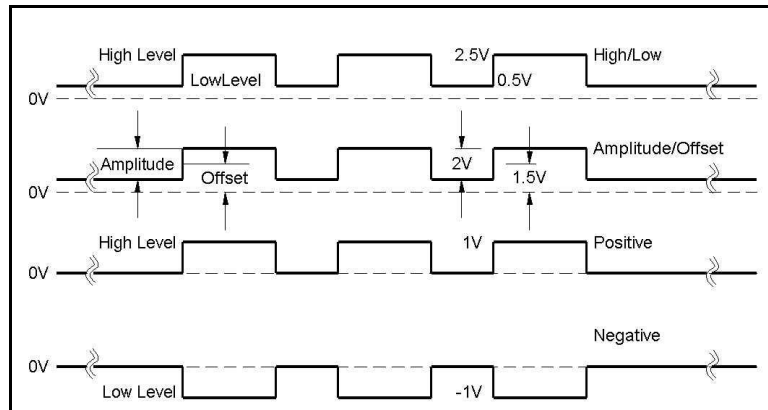

Figure 3-72, Amplitude Level Modes Options
Using the WX2182C as your pulse source, you have four options to set up the pulse levels, as shown in Figure 3-72 and explained below:
1. **High/Low Levels.** This is the default option. Using this mode, you can program the high and the low levels directly, while allowing the instrument to set the internal amplitude and offset according to your selection. The maximum amplitude that can be programmed is 4 V peak-to-peak. To achieve this level, program the low level to -1.5 V and the high level to +1.5 V. Note that the amplitude level is specified when the pulse is applied on a 50 Ω load impedance. The only way to exceed the peak-to-peak rail limitation is by increasing the load impedance, but then expect degradation of the pulse shape. The example in Figure 3-72 shows the high level set at 2.5 V and the low level set at 0.5 V and therefore, the resulting peak-to-peak level is 2 V.
2. **Amplitude/Offset.** This option allows separate modification of the amplitude and the offset. This option is very useful when you want to vary the vertical position of the pulse, but hold the peak-to-peak amplitude level fixed. The example in Figure 3-72 shows the amplitude set at 2.5 V and the low level set at 1.5 V and therefore, the resulting waveform is exactly as was programmed in the high/low level programming example.
3. **Positive.** This option is very useful when you want to vary the positive position of the pulse, but hold the low level fixed at the 0 V level. The example in Figure 3-72 shows the high level set at 1 V and the low level fixed at 0 V. Modification of the high level will not alter the low level position.
4. **Negative.** This option is very useful when you want to vary the negative position of the pulse, but hold the high level fixed at the 0 V level. The example in Figure 3-72 shows the low level set at -1 V and the high level fixed at 0 V. Modification of the low level will not alter the high level position.